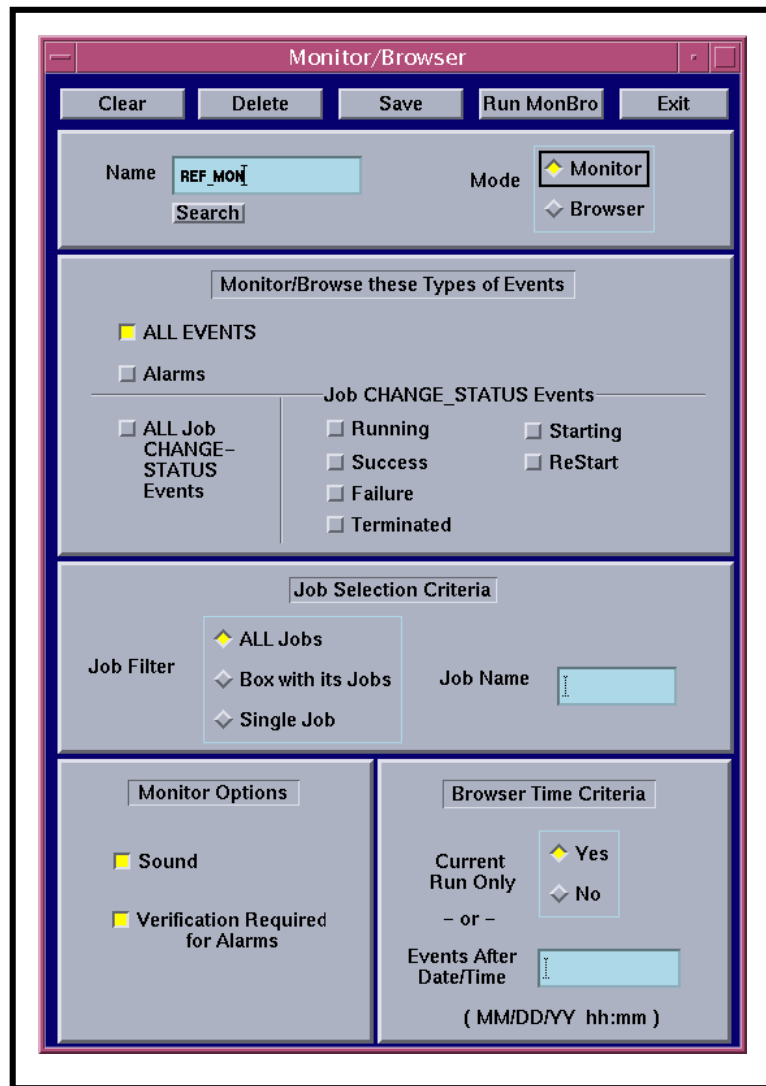

Figure 59. Monitor/Browser GUI
- The **Monitor/Browser** GUI (Figure 59) is displayed.